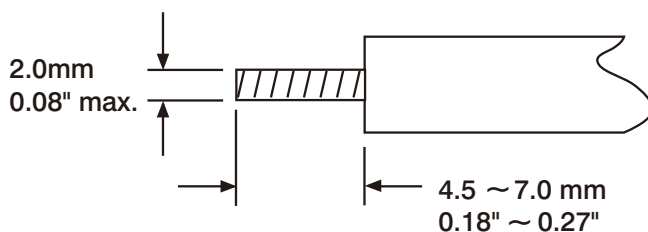

Figure 2.2 Lead Termination
- \* The "stripped" leads as specified in Figure 2.2 below are used for power and sensor connections.